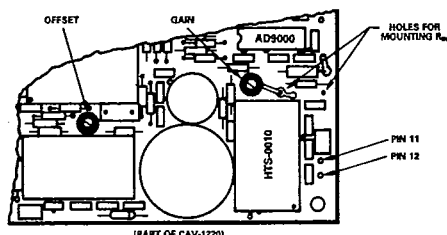

Figure 2. CAV-1220 Adjustment Controls
- ¹¹Standard bipolar input is adjustable ± 5% with on-card potentiometer (see text and Figure 2). Unipolar 0 to +2V input range is available on special order; consult factory for details.
The physical location of R_{IN} is shown in Figure 2.
Refer to Figure 2, the CAV-1220 Adjustment Controls.